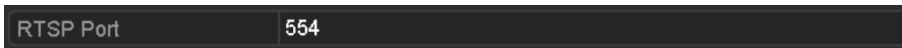

Figure 9. 17 RTSP Settings Interface
2. Select the **More Settings** tab to enter the More Settings menu, as shown in Figure 9. 15.